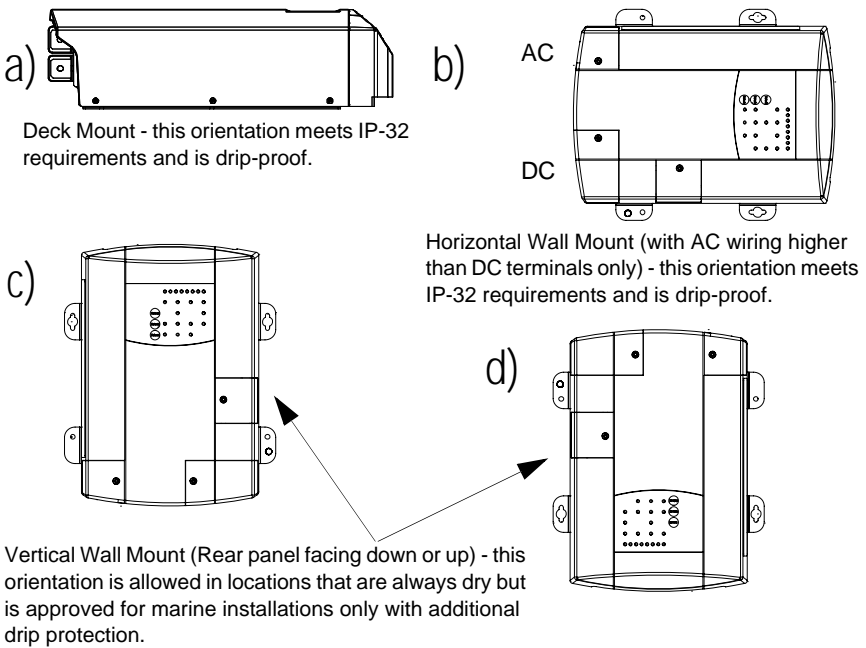

Figure 2-2 Truecharge™ 2 Battery Charger Mounting Orientations
1. In two specific installation orientations—see Figure 2-2, “Truecharge™ 2 Battery Charger Mounting Orientations” on page 2-7.
When planning to install the Truecharge™ 2 Battery Charger, be sure that you consider the location and orientation carefully. The Truecharge™ 2 Battery Charger is considered to have an IP rating of IP-32, if installed in either of two specific orientations [shown in Figure 2-2 a) and b)]. This rating means that it meets standards to prevent dripping water from entering the enclosure, and causing shock hazard and damage to equipment.
The other possible mounting orientations will not prevent the entry of dripping water, and are not suitable for marine or other moist environments without the installation of additional drip protection. They are only acceptable for use in locations that are always dry [shown in Figure 2-2 c) and d)].
In marine environments, there is a likelihood that condensation will be present, and may drip on to the charger. Use the appropriate mounting orientations as shown in Figure 2-2.
Mount the Truecharge™ 2 Battery Charger using all four mounting slots and holes which are provided. Mounting orientations a) and b) in Figure 2-2 meet IP-32 and drip-proof requirements that are needed to ensure safety in the presence of condensation. The other possible mounting orientations c) and d) also shown in Figure 2-2 will not prevent the entry of dripping water, and are not suitable for use in marine installations or other moist environments without the installation of additional drip protection. They are only acceptable for use in locations that are always dry.